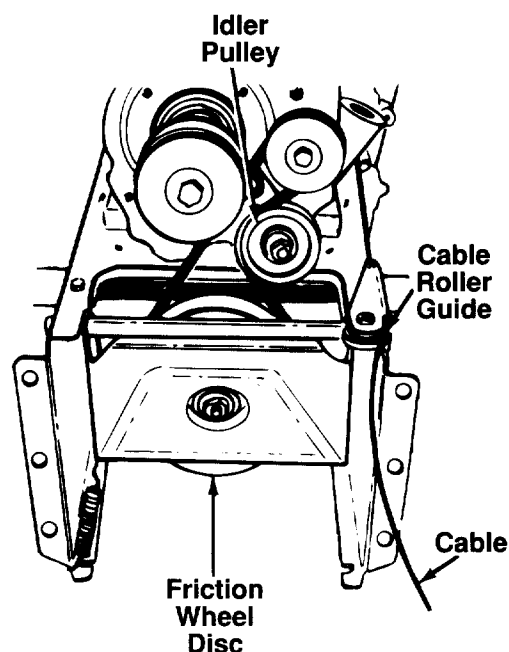

FIGURE 17.
7. If a replacement drive belt is needed, follow steps 1 through 5 of previous instructions. Pull idler pulley up and lift belt off friction wheel disc. See figure 17. Reassemble in reverse order.
NOTE: When reassembling the two halves of the unit, the auger drive cable must be routed through the cable roller guides as shown in figure 17.